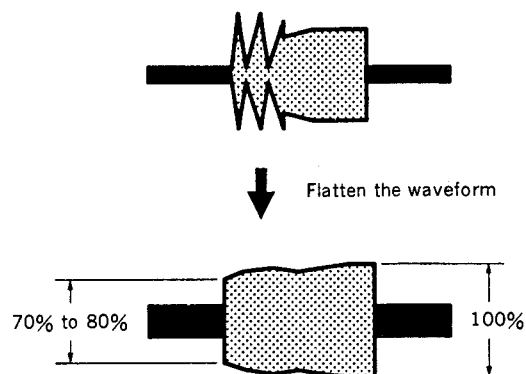

Fig. 5
- (4) Turn slowly the No. 2 Guide clockwise to flatten the waveform at the entrance side. (fig. 5)